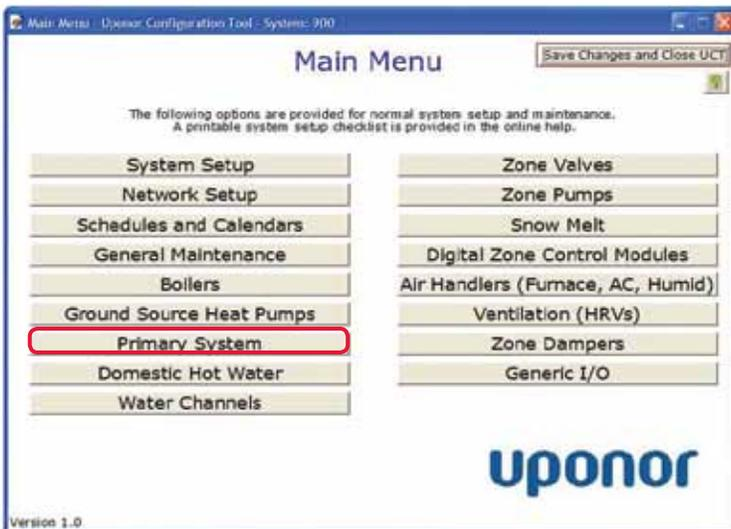
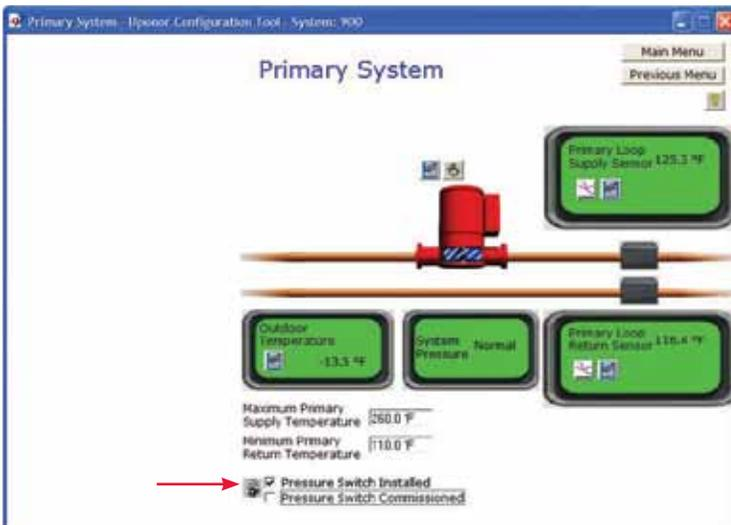

Figure 2.6-3: Main Menu Screen
Figure 2.6-4: Primary System Screen
1. From the **Main Menu**, click the **Primary System** button shown in **Figure 2.6-3**. This will display the Primary System screen shown in **Figure 2-6-4**.
3. Click on the Pressure Switch Commissioned check box. When this box is checked, the padlock, indicated by the red arrow in **Figure 2.6-4**, will no longer display. This step assumes the installer previously adjusted and tested (commissioned) the sensor.